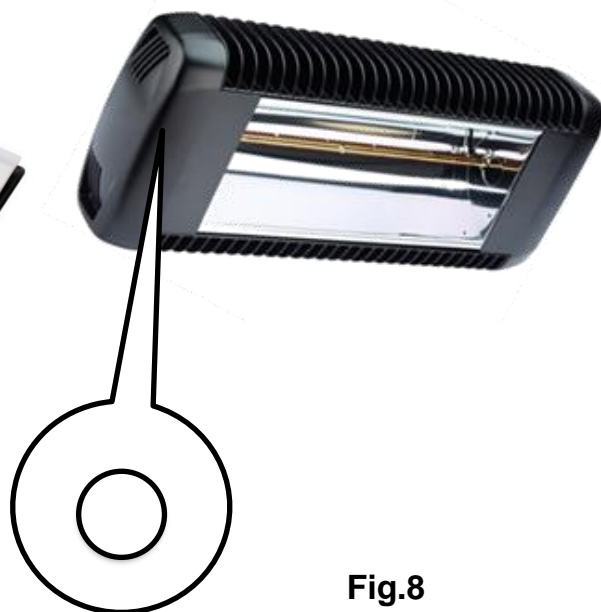

Fig.8
- The blue LED on the heater goes out to confirm that the storage operation is complete. Fig.8